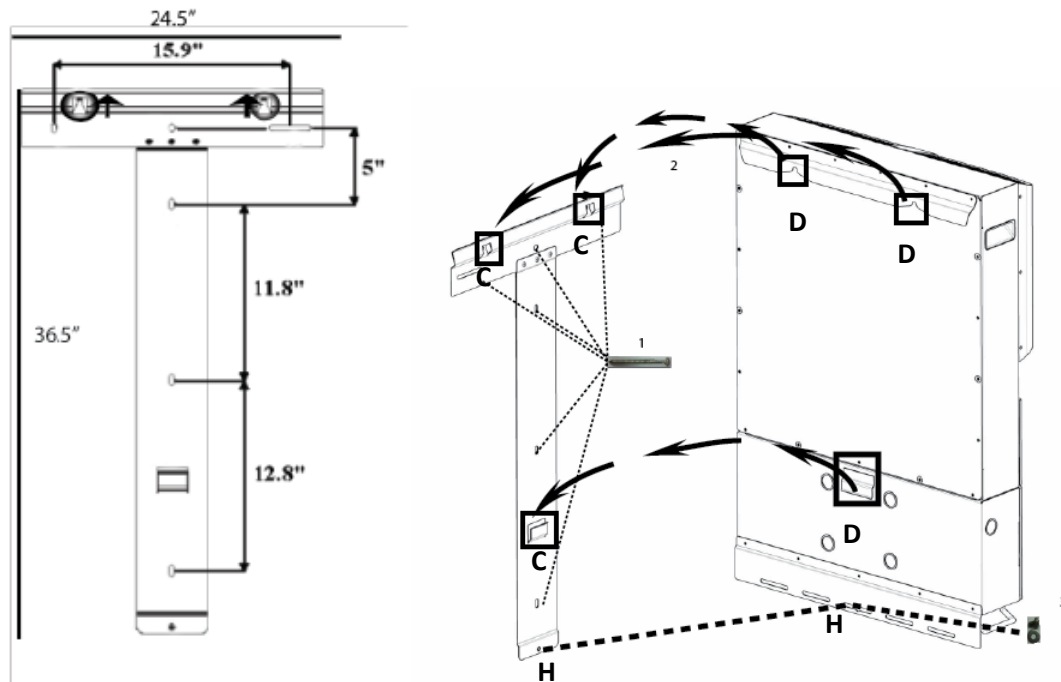

Figure 2:01 Bracket and Mounting Details
Step 2: Orient the bracket such that the “C” hooks face outward and upward. (Figure.2:01)
Step 3: Using the hardware provided, level and mount the bracket to the surface using mounting holes shown in Figure 2:01.